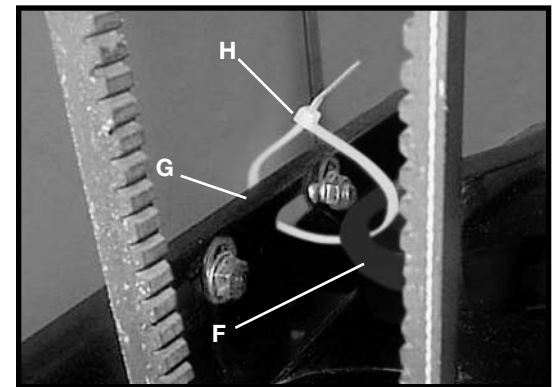
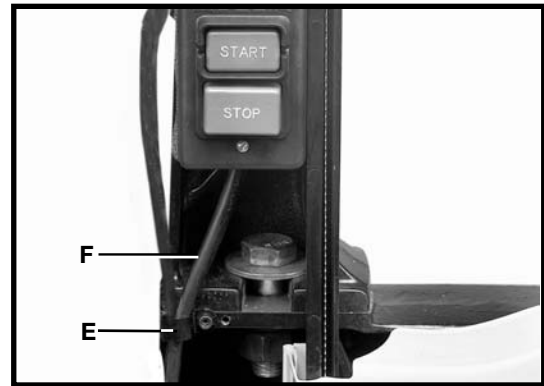

Fig. 11
Fig. 16
2. **CAUTION:** The switch-to-motor cord (F) Fig. 11 must be tied to the horizontal motor support bar (G). This cable tie (H) prevents the switch-to-motor cord (F) from contacting the belt or motor pulley during operation of the unit.
7. Insert the switch cord and power cord (F) Fig. 16 into the clamp (E) (removed in **STEP 6**), and fasten to the bandsaw.
IMPORTANT: Be certain to prevent contact between the switch-to-motor cord (F) Fig. 16 and the motor pulley or belt. If necessary, adjust the cord, then tighten the cable tie (H) Fig.11.